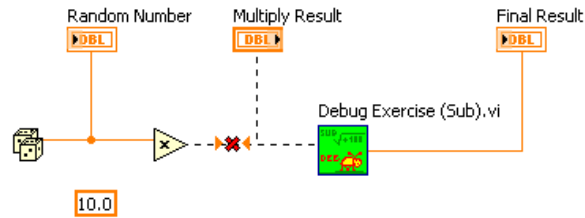

Figure 2.36
1. Select Window»Show Block Diagram to display the block diagram shown in Figure 2.36.